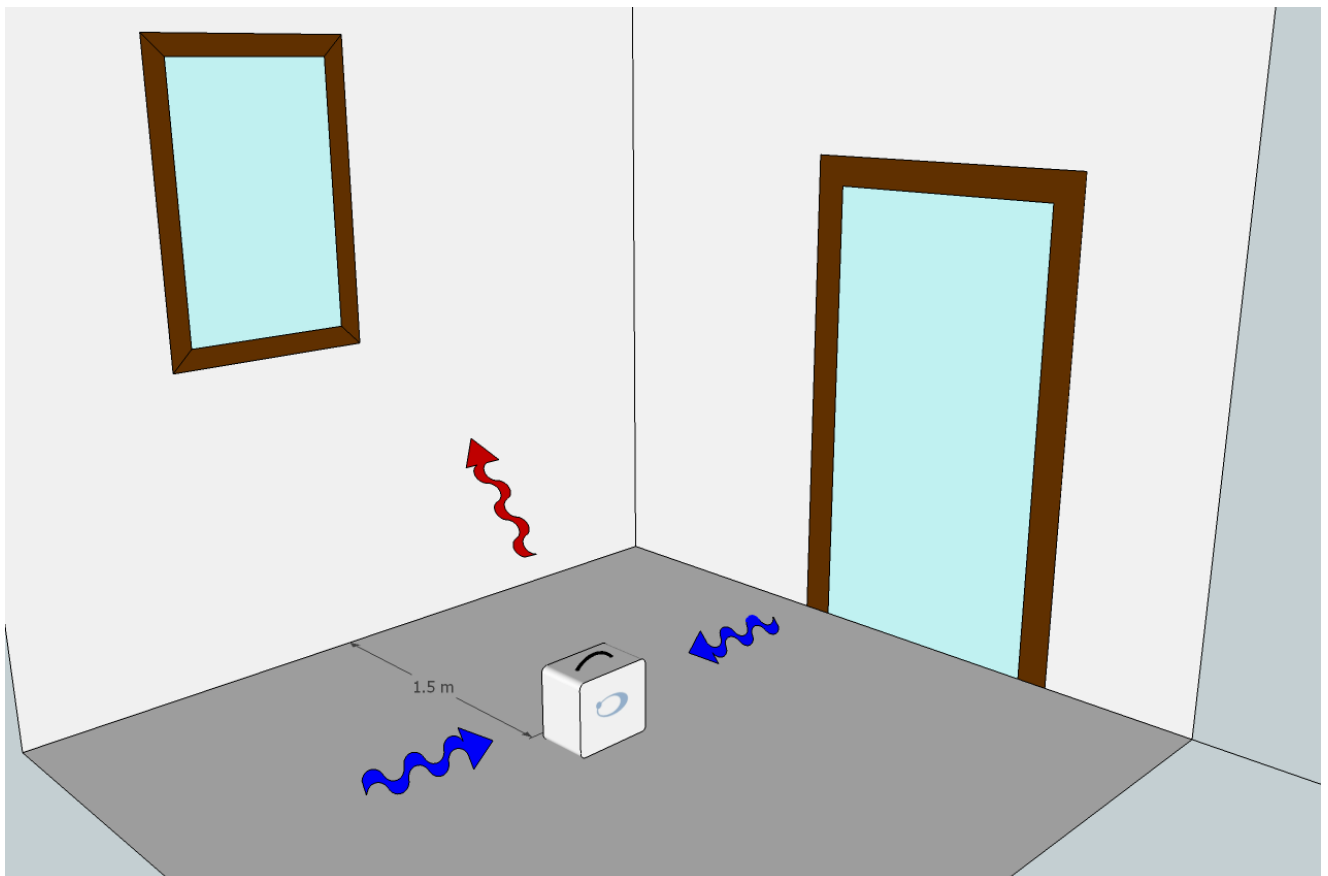
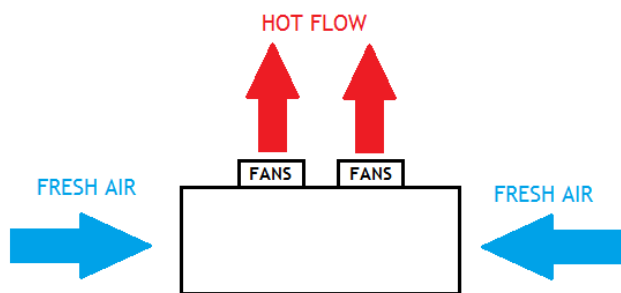
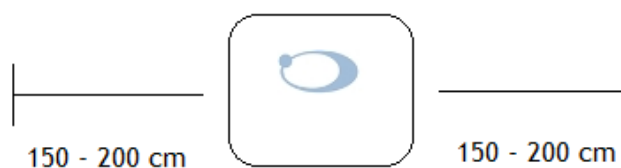

Fig.1: ideal placement of GreenBox with best flow configuration (input fresh air in blue and output hot flow in red)
Fig.2 : topview of GreenBox
Fig.3: frontview of GreenBox
- **Please operate in vented indoor room or with open windows** and flowing fresh air (as illustrated in Fig.1, Fig. 2 and Fig.3)